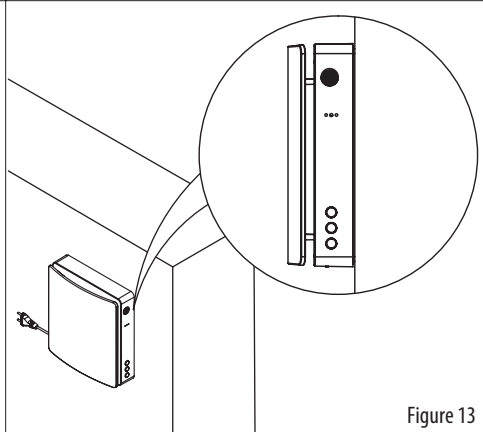

Figure 13
12. The installation is complete if the ventilation unit is flush with the surface wall (Figure 13). If a large gap appears between the ventilation unit and the mounting plate, the wires in the ventilation unit need to be adjusted. Therefore, remove the ventilation unit and repeat steps 11 and 12.